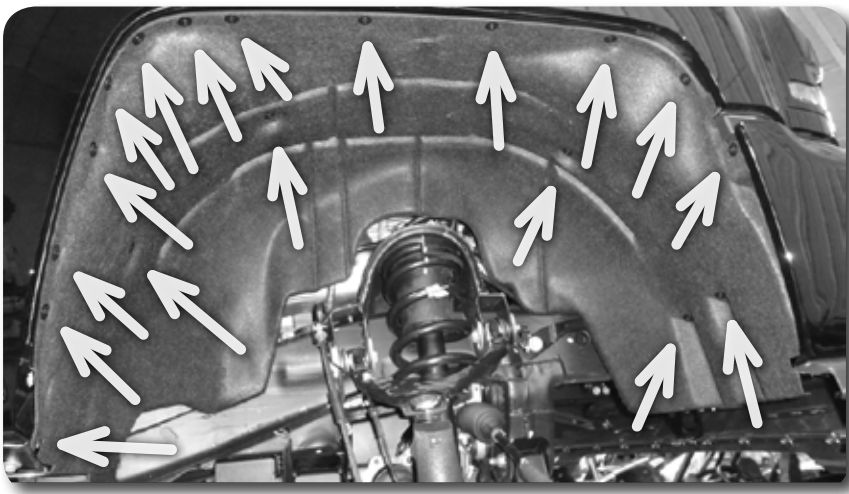

Figure 2
3. Remove all the screws holding in the inner fender (reference the 18 screws for Chevrolet models in the figure below) **Figure 2**. Remove the inner fender from the vehicle.